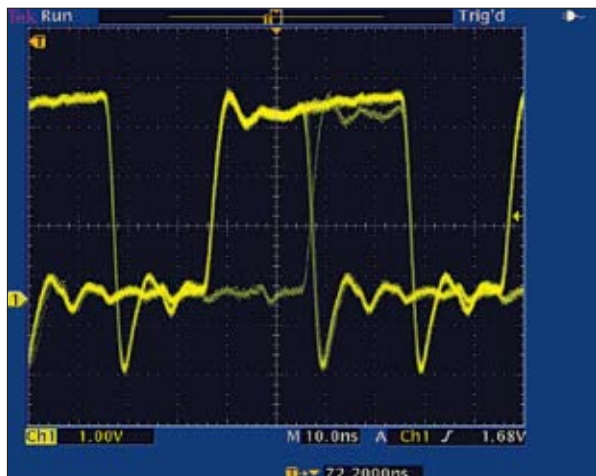

FIGURE 1. An oscilloscope's display reveals signal details of a largely analog nature, such as rise and fall times, amplitude, and other subtle characteristics.
and other analog characteristics, such as phase relationships, peaks, time between adjacent edges, etc. (see Figure 1). A scope's vertical axis represents voltage and its horizontal axis represents time.
measurements such as rise- and fall-times, peak amplitudes and the elapsed time between edges. Figure 1 illustrates the oscilloscope's strengths. The waveform (though taken from a digital circuit) reveals the analog characteristics of the
■ FIGURE 1. Magnetic inchworm climbing a Teflon-coated steel sheet at a 30 degree incline.